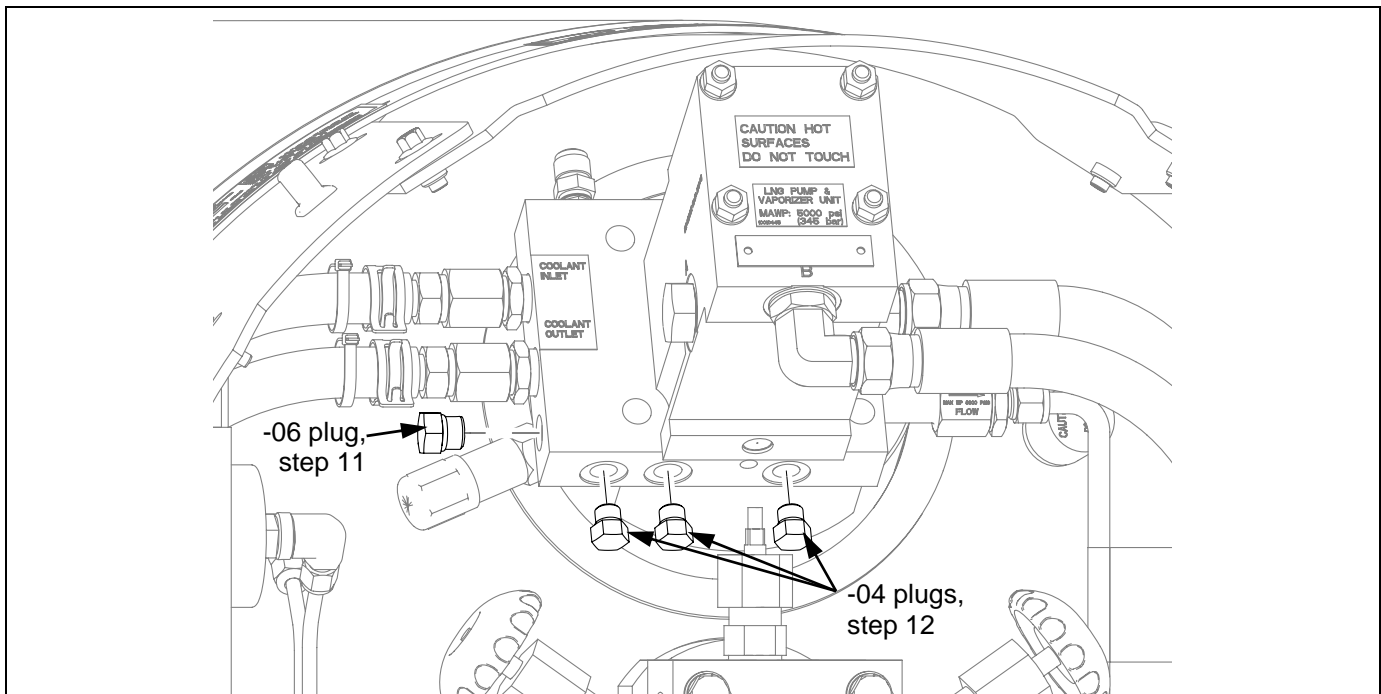

Figure 3: LNG pump plug and fitting locations
11. Install the provided -06 plug with disogrin o-ring in the discharge tube port (Figure 3). Torque to **37 N·m (28 ft·lbs)**.
12. Install the three (3) provided -04 plugs with disogrin o-rings in the shutoff valve handle and PRV discharge tube fitting locations (Figure 3). Torque to **26 N·m (19 ft·lbs)**.